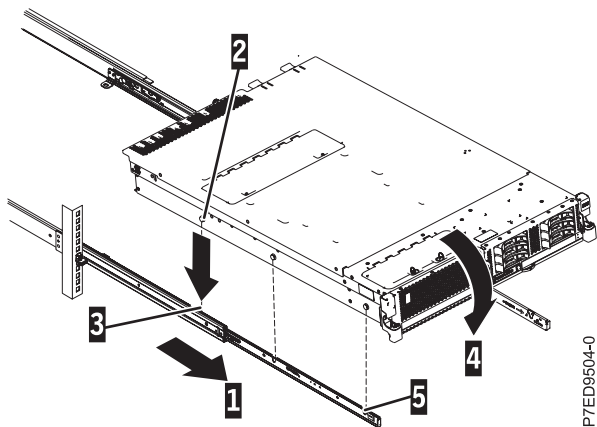

Figure 8. Extending slide rails and aligning server nail heads with slots in the rail
2. Extend the slide rails forward (1) until they click twice into place. Carefully lift the server and tilt it into position over the slide rails so that the rear nail heads (2) on the server line up with the rear slots (3) on the slide rails. Slide the server down until the rear nail heads slip into the two rear slots, and then slowly lower the front of the server (4) until the other nail heads slip into the other slots on the slide rails. Make sure that the front latch (5) slides over the nail heads, as shown in Figure 8.